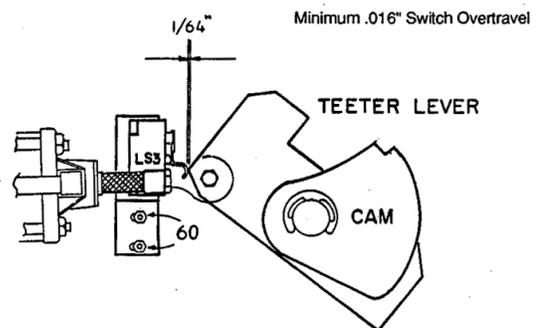

Figure 4
4. **LS3 Adjustment:** The LS3 Switch is used to break or open the touchbar circuit allowing the doors to close once the doors have reached the full open position. Check that LS3 actuates approx. 80-85 of full open position. LS3 must not bottom out. Adjust as required. See Figure 4.